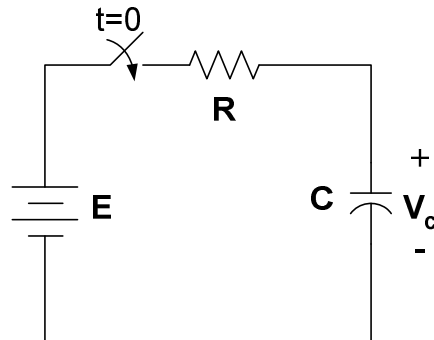

Figure 1: RC series circuit
4. Draw the Norton's equivalent of the circuit in Figure 1.
The capacitor in the circuit of Figure 1 is assumed to have no initial voltage. When the switch is closed, the capacitor begins to charge. The voltage  $V_c(t)$  across the capacitor for  $t=0$  is given as,